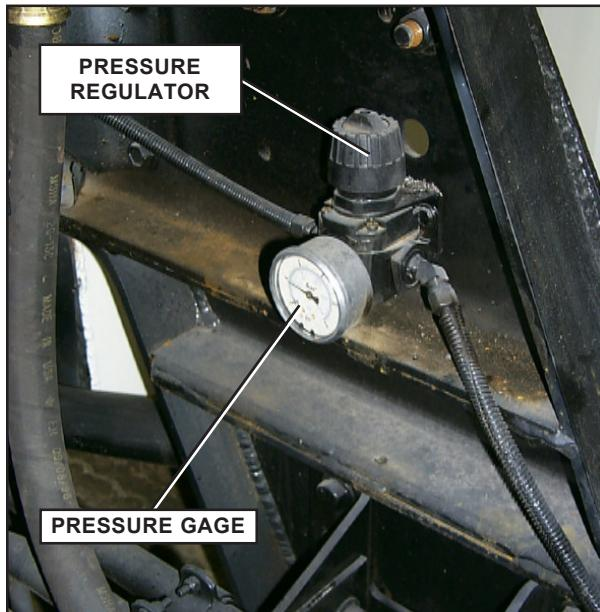

FIGURE 13.8
A gage and a pressure regulator are installed to adjust the air pressure inside the tank. This gage is located inside the frame rail on the curbside of the chassis (figure 13.8). This gage can be accessed only when body is raised.
10. Check that the air pressure on the regulator gage found inside the chassis frame rail (figure 13.8).